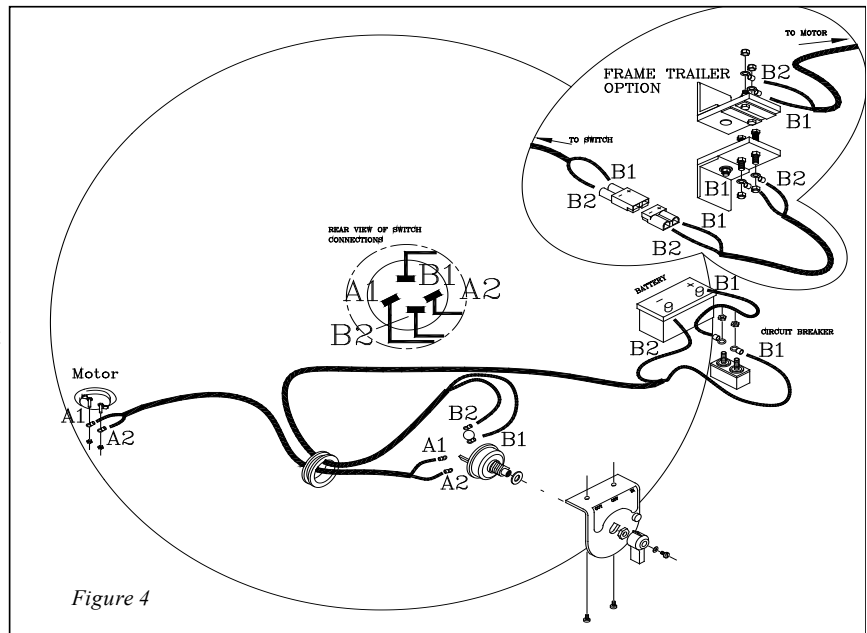

Figure 4
**Installing the electric system from the motor to the disconnect for framed trailers, see figure 4.** For framed trailers, begin by installing the contact pad (note: contact pads are necessary on some trailers to prevent line loss. They may not be necessary for some shorter framed trailers). Find a spot on the trailer, near the front, where the pads can be mounted and not interfere with the dumping process yet make good contact when the trailer body is down. After finding the proper location, clean the surface on both the frame and the trailer body where the pads will be mounted.
With the pads clamped in this position, weld the pads in place. (note: to adjust contact, loosen or tighten the spring bolts on the pad mounted to the frame). After the contact pads are in place, the next step is running the wire. Start by connecting the motor to the contact pad mounted to the trailer body. First connect the wires to the motor, see figure 4, then run the wire directly to the bulkhead or into the machined channel in the K-Bar. Next, according to preference, either run the wire directly down the center of the bulkhead to the bottom and under the trailer to the front of the frame where existing wire disconnects are located, or run the wire into the machined channel in the K-Bar and toward the top left corner of the trailer. Then using a 1-1/4" hole saw cut one hole in the top left corner and, if needed, one underneath the bottom left corner of the bulkhead.
**Installing the electric system from the motor to the disconnect for frameless trailers, see figure 4.** For frameless trailers, first, connect the wire to the motor then run the wire into the machined channel in the K-Bar and toward the top left corner of the trailer. Then, using a 1-1/4" hole saw, cut one hole in the top left corner of the front of the trailer, and if needed, one underneath the bottom left corner. Thread the wire, first, through a rubber grommet, then into the hole at the top of the trailer, down through the channel in the corner of the trailer, and back out through the hole underneath the bottom corner. From there, run the wire toward the front of the trailer where existing wire disconnects are located. Next, if one is not available, cut a hole for the disconnect assembly near existing disconnects. Then, connect the wire to the female end of the disconnect provided.
**Installing the electric system from the motor to the cab for dump bodies, see figure 4.** First, connect the wire to the motor, then, for inside mounts, run the wire along the inside front of the cab protector to the left side and then along the inside left to the rear of the cab protector. For outside mounts, after connecting the wire to the motor, run the wire into the machined channel in the K-Bar and toward the left side of the cab protector. From there, either run the wire up over the top and to the inside of the cab protector, or run the wire along the outside and to the rear of the cab protector. With the wire at the rear of the cab protector, either run the wire along the outside of the front left corner of the body toward the bottom, or cut one hole in the top left corner and one underneath the bottom left corner and run the wire through the channel inside the body toward the bottom of the body. With the wire at the bottom left corner of the body, run the wire, following existing wires, toward the rear of the body. Run the wire to the hinge point of the body, around the hinge, and back toward the front of the body along the frame of the truck, continuing to follow existing wires. Continue along the frame to the rear of the cab.
**Installing the cab control portion of the electrical system, see figure 4.** First, install the switch assembly at a convenient and accessible place inside the cab. Next, for trailers, connect the wire to the male end of the disconnect provided and follow existing wires to the rear of the cab. From there, for both trailers and dump bodies, run the wire into the cab following existing wires and connect to the switch assembly. Finally, connect wire to the remaining post on the switch assembly and run toward the battery following existing wires when possible. Then, connect the wire either directly to the battery or to an existing positive and negative wire already connected to the battery.